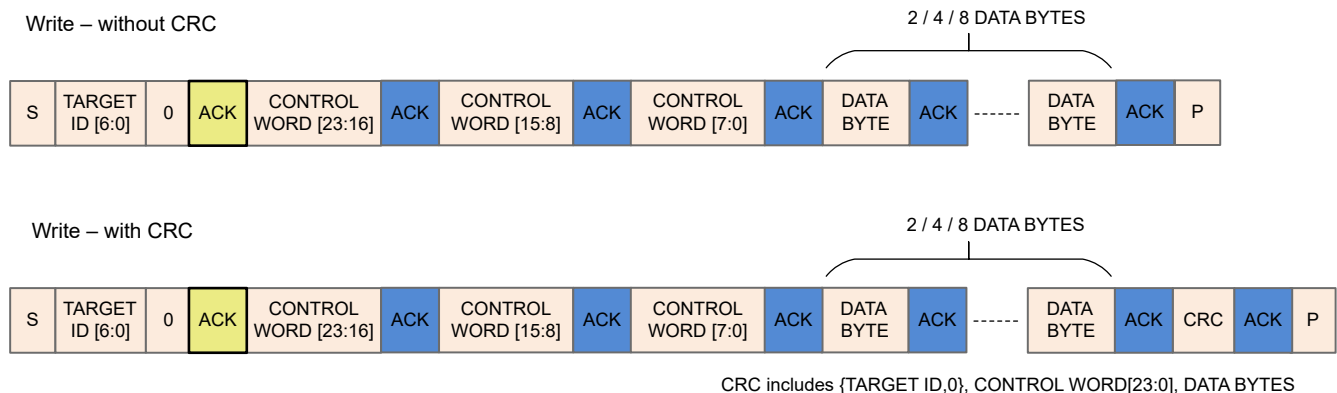
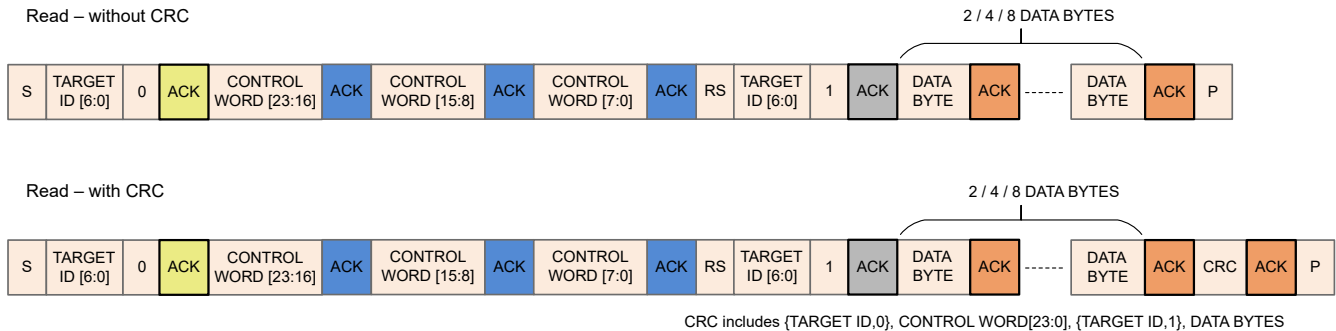

Figure 6-65. I²C Write Transaction Sequence
Figure 6-66. I²C Read Transaction Sequence
MCF8316D write transaction over I²C involves the following sequence (see Figure 6-65).
MCF8316D read transaction over I²C involves the following sequence (see Figure 6-66).
- When target ID is a match, I²C peripheral in MCF8316D raises a start interrupt request. Until this start interrupt request is processed, clock is stretched. Upon processing this request, clock is released and an ACK (marked in yellow or grey in Figure 6-65 and Figure 6-66) is sent to the controller for continuing with the transaction.
- Receive interrupt pending:** When a receive interrupt is waiting to be processed and the receive register is full which occurs when two successive bytes (data or control) have been received by MCF8316D (separated by one ACK shown as blue boxes in Figure 6-65 and Figure 6-66) without the receive interrupt generated by the first byte being processed. Upon receive of second byte, clock is stretched until receive interrupt generated by the first byte is processed.